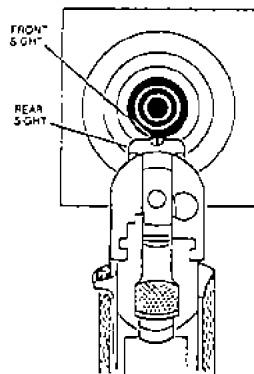

FIGURE 5—AIMING
3. Grasp pistol by stock and, with index finger resting along the outside of trigger guard, take aim. Aim by aligning target with front and rear sights. (See Figure 5). After identifying your target and seeing that it is clear to shoot, focus on the front sight. Be sure you have a safe backstop. **THINK!** *What you will HIT if you MISS the target?*